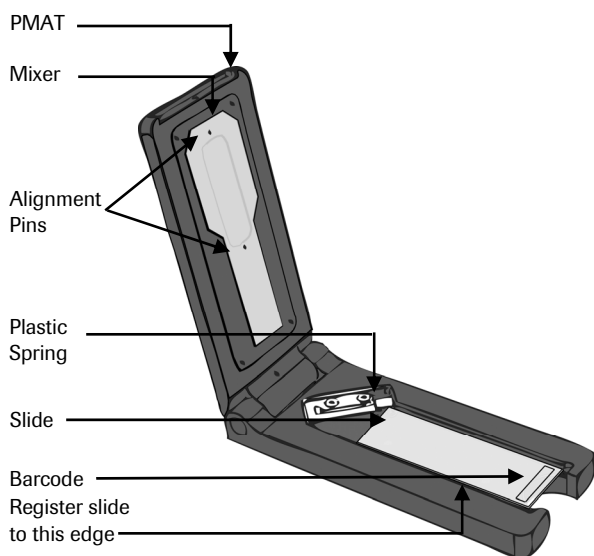

Figure 7: PMAT with X1 Mixer and Slide
3. Snap the mixer onto the two alignment pins on the lid of the PMAT with the tab end of the mixer toward the inside hinge and the mixer's adhesive gasket facing outward (Figure 7).